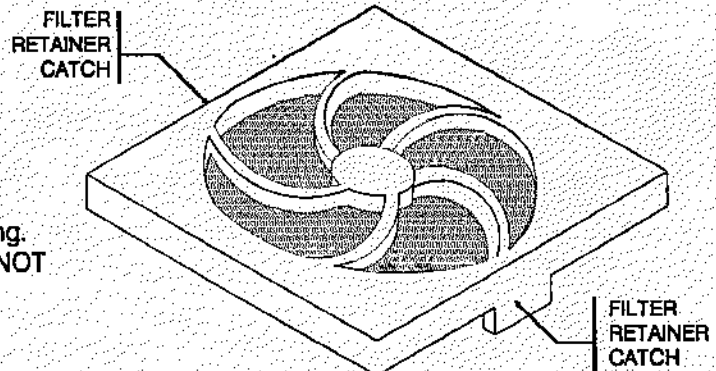

FIGURE 11-1.
- 1. Remove the filter retainer by pulling the sides with the catch apart. Refer to figure 11-1.